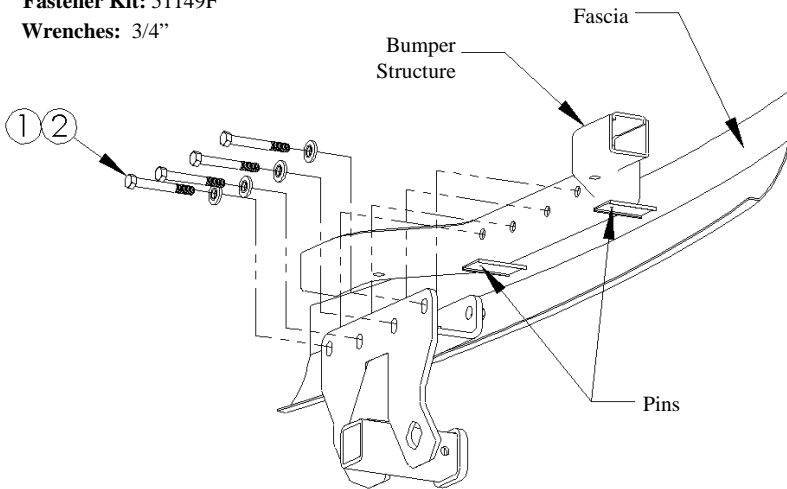

FIGURE 1
- Remove two plastic pins that hold bumper fascia onto bumper structure as shown in Figure 1. (If OEM tow hook is present: Remove fascia, plastic bumper support and tow hook)